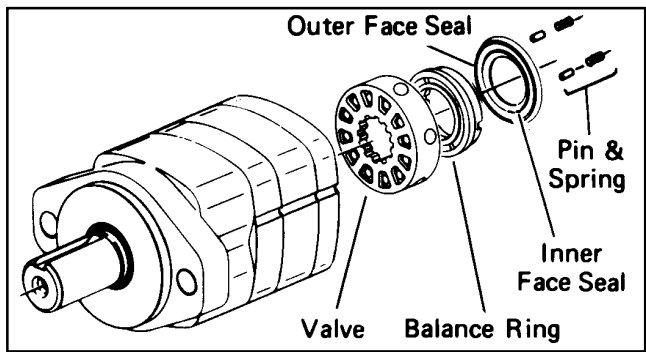

Figure 75
6. Remove 2 pins and 2 springs from balance ring assembly, see Fig. 75.